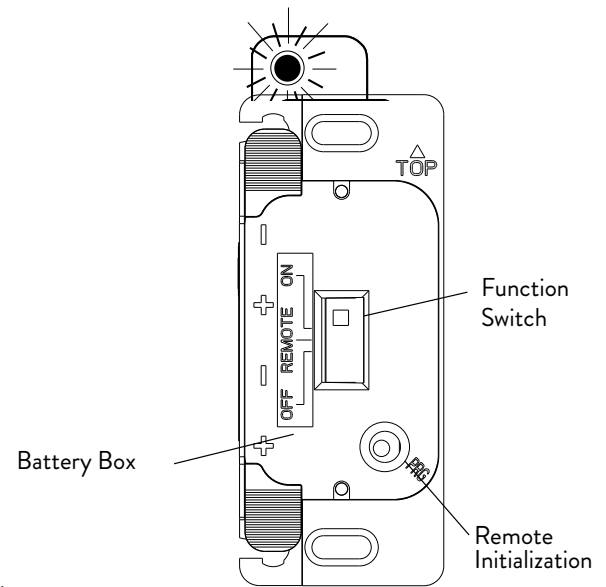

Figure 8.4. Fireplace Control switch.
3. Press the black initialization button (PRG) at the lower right of the switch box faceplate (fig. 8.4, page 27). The board will “beep” three times signalling a 10-second synchronization time limit.